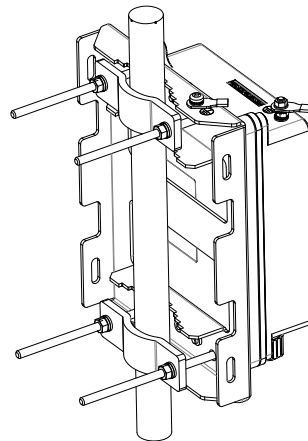

Figure 3
3. Attach the back panel to the fore-panel by threading the four bolts through the parallel holes on the back panel. Put a washer and a spring washer onto each bolt and fasten it tightly with a nut (see Figure 3).